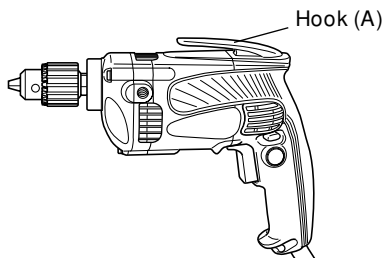

Fig. 13
11. Attaching the hook. (Optional accessory) (Fig. 13)